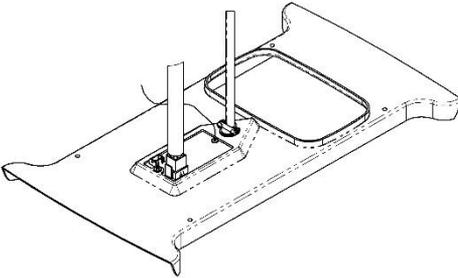

Figure 7
- C. Raise the ceiling assembly chute and insert the supply wiring through the cable clamp and into the wiring box so that 4-6" of supply conductor is inside the box. Secure the cable clamp over the supply wire sheath so that no movement is possible (See Figure 7).
- F. Plug the heat pump electrical conduit into the 9-position receptacle as shown in Figure 7.
- G. If the optional heater accessory package is being installed, remove the cover from the 2-position receptacle and plug the heater cord into the receptacle as shown in Figure 7.